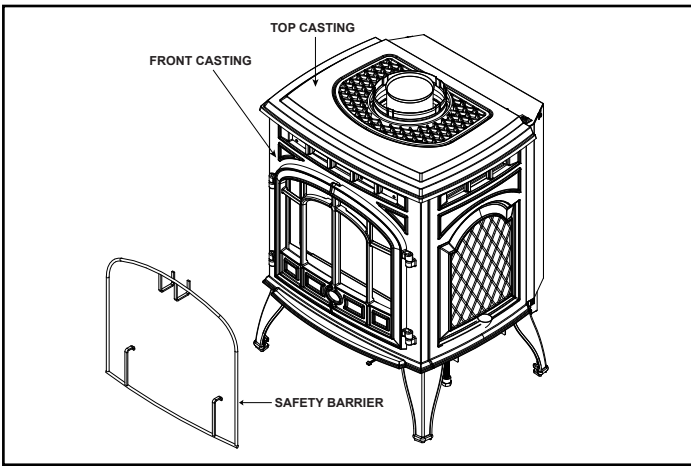

Figure 6.11 Remove Casting
- Remove front casting. See Figure 6.11.